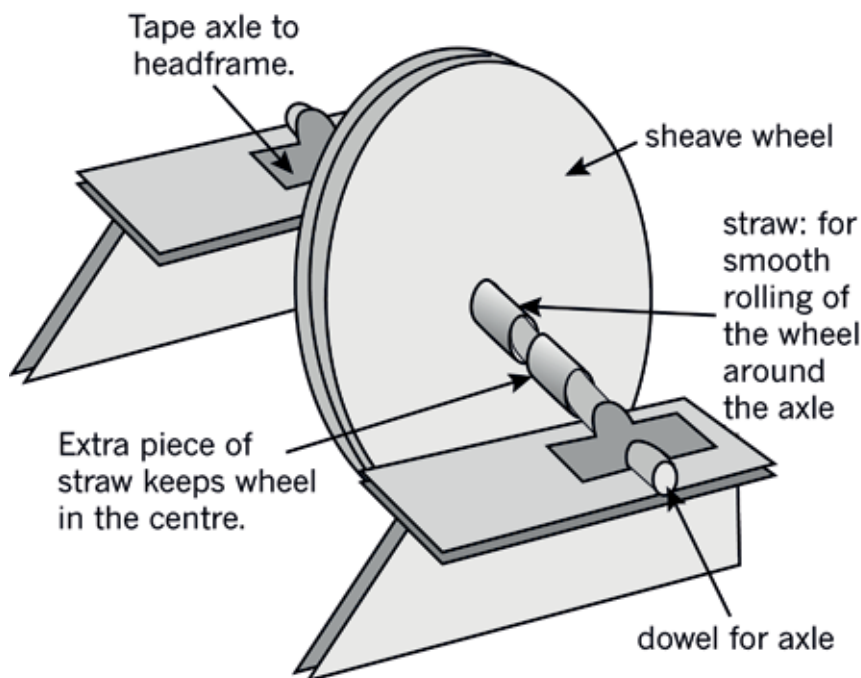

Figure 11: How to add a sheave wheel to the top of a head frame
Look at the picture in Figure 11. A sheave wheel has been added to the top of a head frame in the following way:
8. Now add your sheave wheel to its head frame. Use Figure 11 to help you. (2)